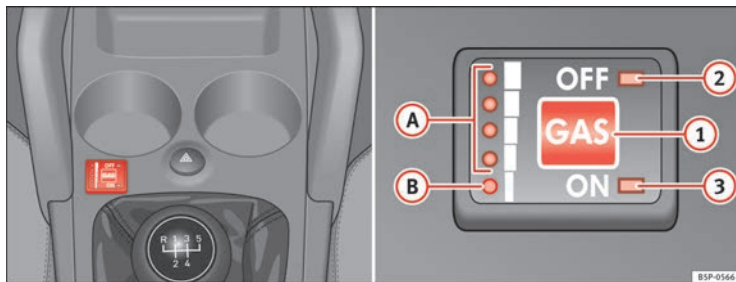

Fig. 138 Centre console: gas system control warning lights and switch.
It is possible to change from LPG to petrol while the engine is running, even if the vehicle is moving, by pressing the **GAS** button ⇒ fig. 138 ①. The selected operating mode is shown by the lights **OFF** ② (running on petrol) and **ON** ③ (running on LPG).